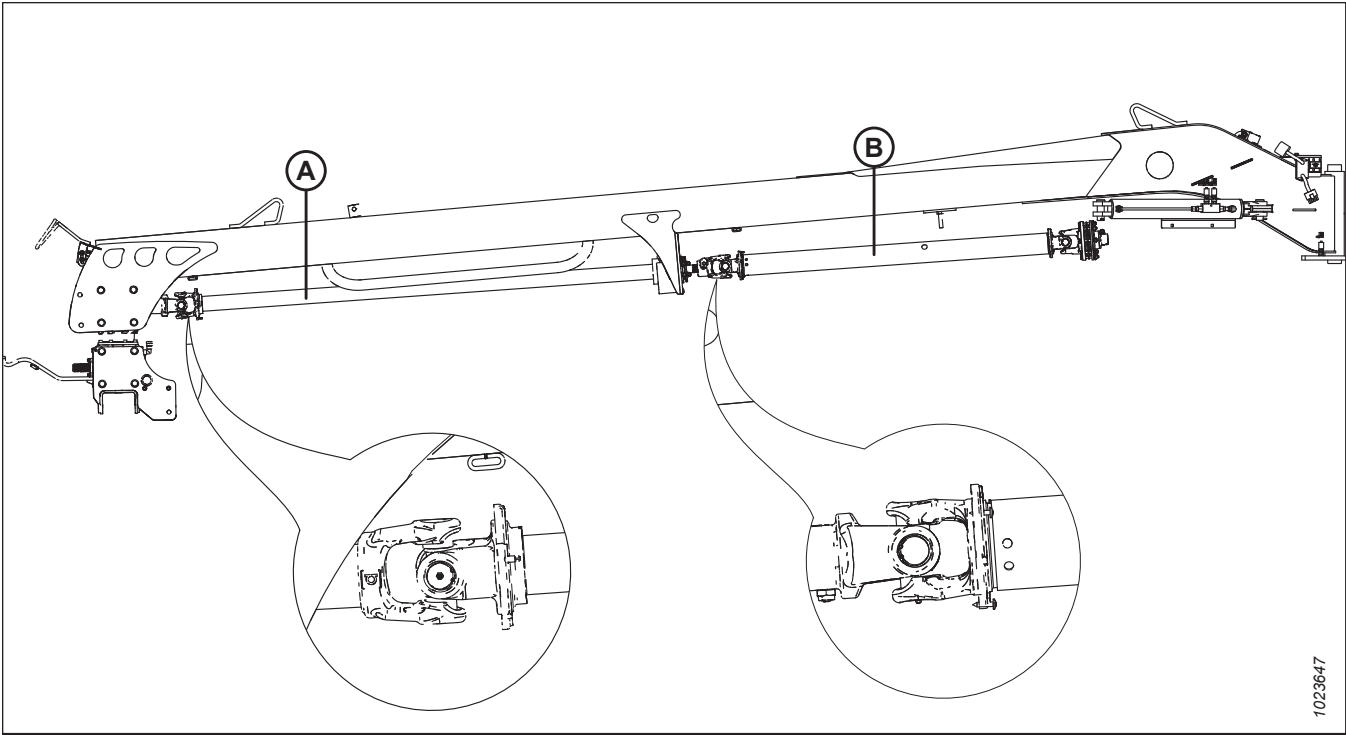

Figure 4.183: R113 Rotary Disc Pull-Type Driveline Phasing
On the R113 Rotary Disc Pull-Type (refer to Figure 4.183, page 244), the U-joint on clutch driveline (B) must be aligned 90° to the U-joint on front driveline (A).